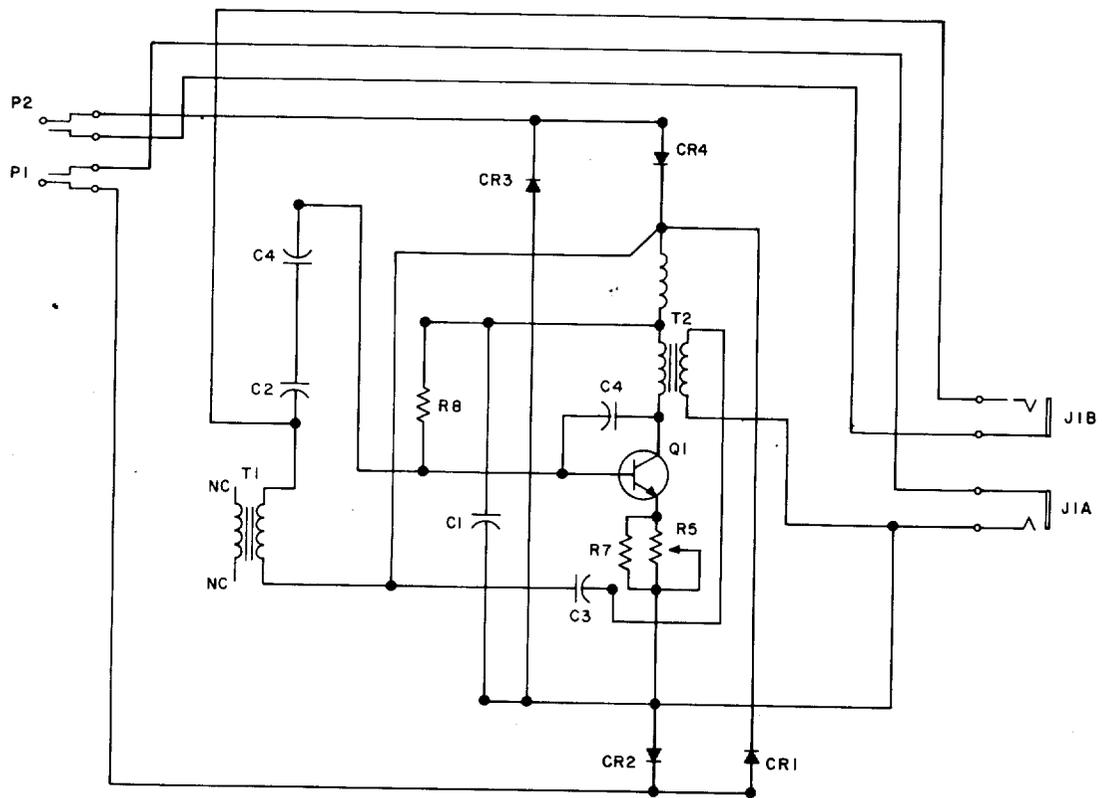

Fig. 7—Modified Circuit of the 153B Amplifier for Weak Speech Use
1.02 This section is reissued to add in 1.07 modification information for the 153B amplifier and to add Fig. 7.
1.07 The 153B amplifier may be modified to provide gain in the transmit rather than the receive direction. The modified unit is identified as the D-180457 amplifier and it is identical in dimensions and appearance to the 153B amplifier. The D-180457 amplifier is intended for use in conjunction with a head telephone set by operators with weak speech. The circuit for the modified 153B amplifier is shown in Fig. 7. The modification is made at the Western Electric Service Centers.